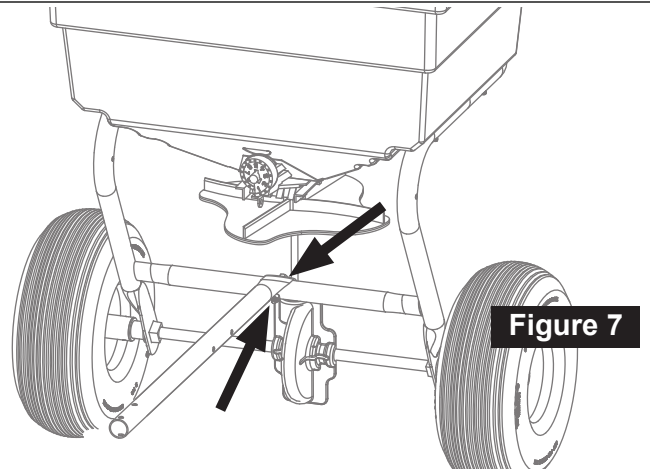

Figure 7
10. Install Hitch Tow Bar onto frame, Figure 7. Attach with 1/4-20 x 1-3/4" Bolt and 1/4" Nylon Insert Locknut.